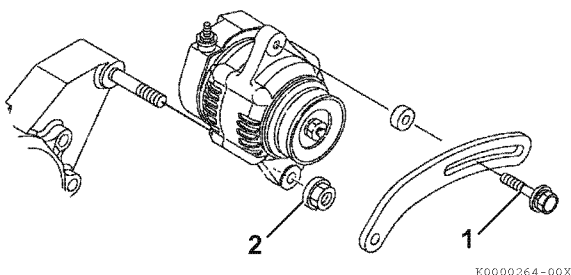

Figure 11-4
3. Remove the V-belt adjuster from the alternator bolt (Figure 11-4, (1)).
4. Remove the nut (Figure 11-4, (2)) from the gear case stud. Remove the alternator.